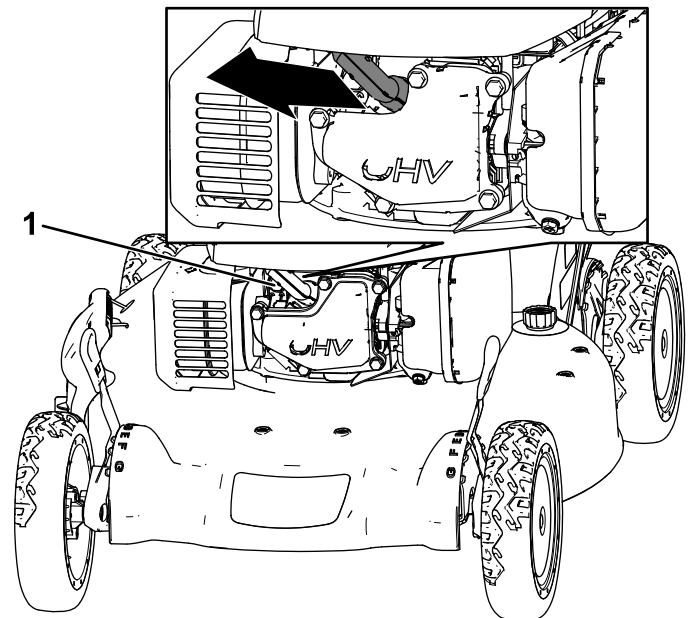

Figure 38
- Disconnect the spark-plug wire from the spark plug (Figure 38).